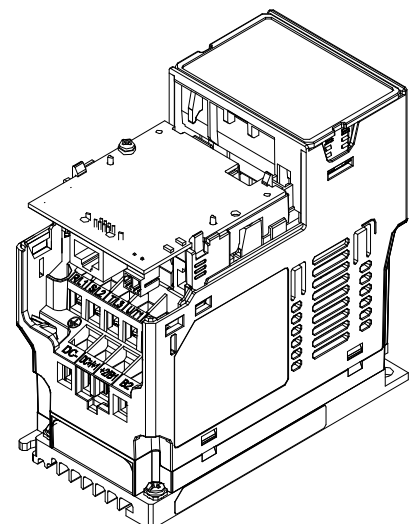

Figure 8-13
7. Assembly is completed, as shown in Figure 8-13.